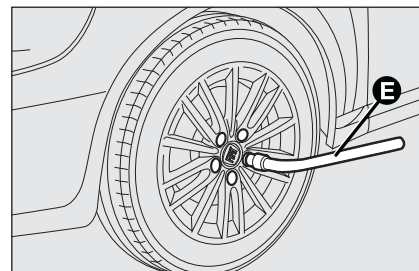

fig. 7
- ☐ loosen the bolts of the wheel to be replaced by about one turn with the wrench provided **E-fig. 7**; if the car is fitted with alloy rims, shake the car to facilitate removing this rim from the wheel hub;